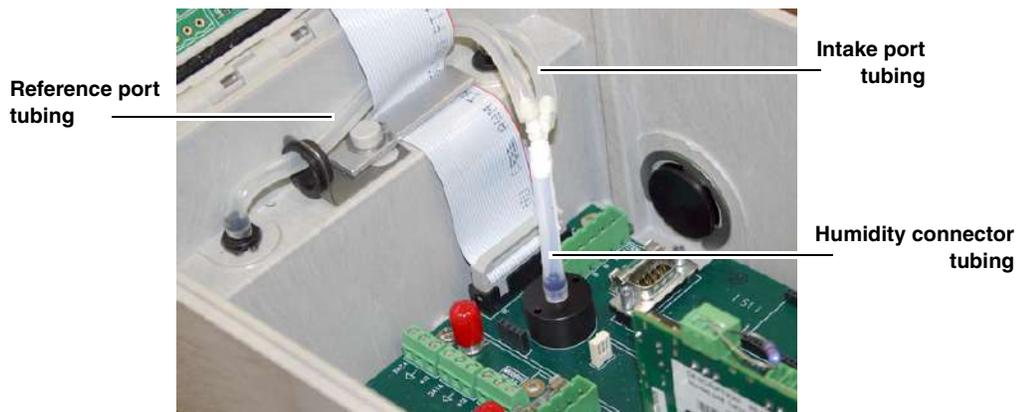

Figure 5-14 Tubing configuration for optimal drying power
4. Connect the ‘Y’ connector to the humidity connector (Figure 5-14).